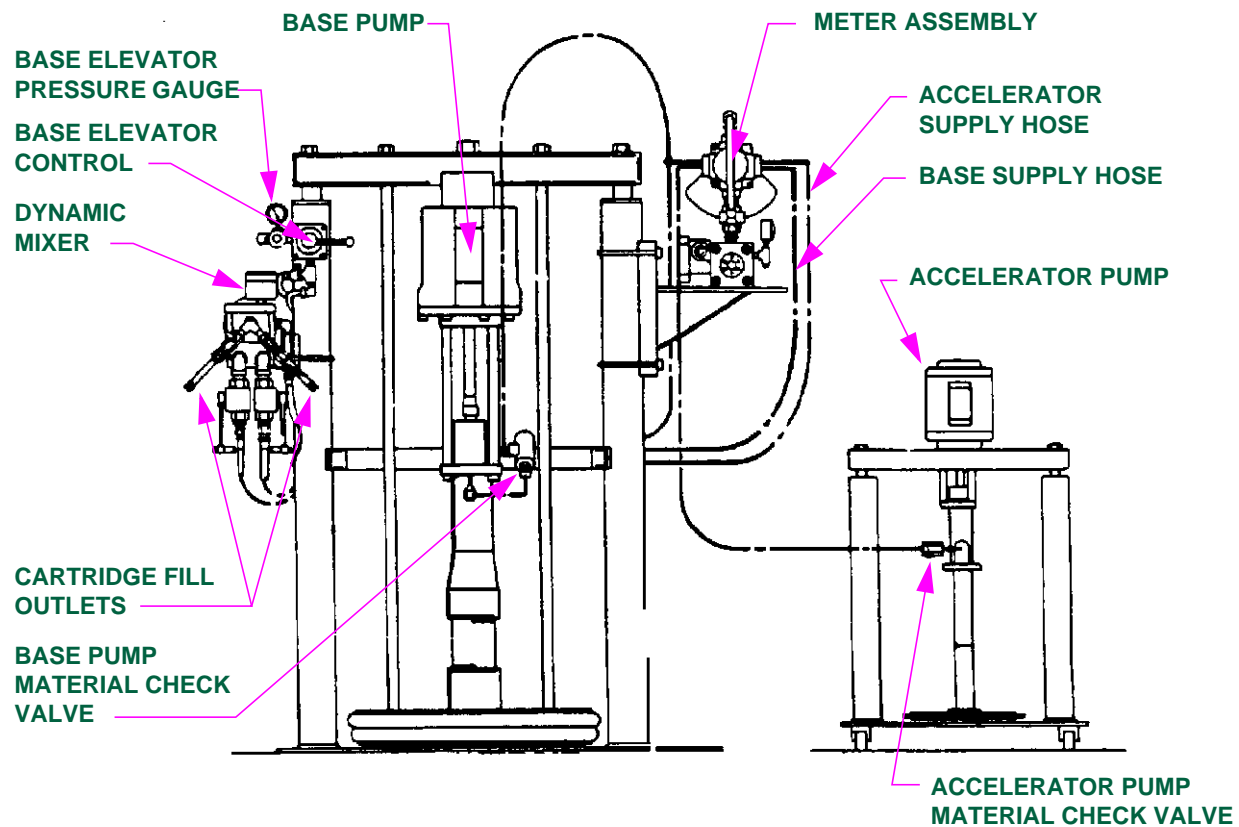

FIGURE 1 - SEALANT MIXING MACHINE COMPONENTS
- 5.1.1 The Pyles Model 8908 is an automatic metering and mixing machine used for mixing and dispensing two-part polysulphide type sealants (see Figure 1). The mixing machine system consists of three basic components: